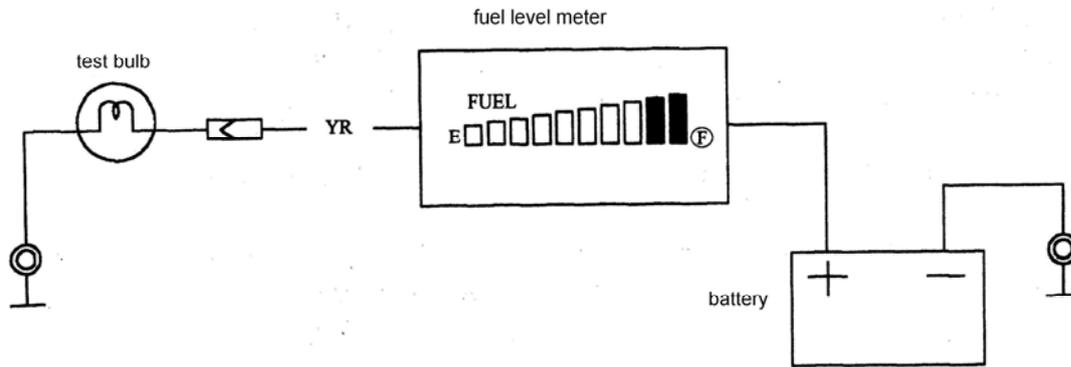

Fig.17-6
- Use a bulb (12V, 3.4W) in position to ground the above, as shown in Fig. 17-6.